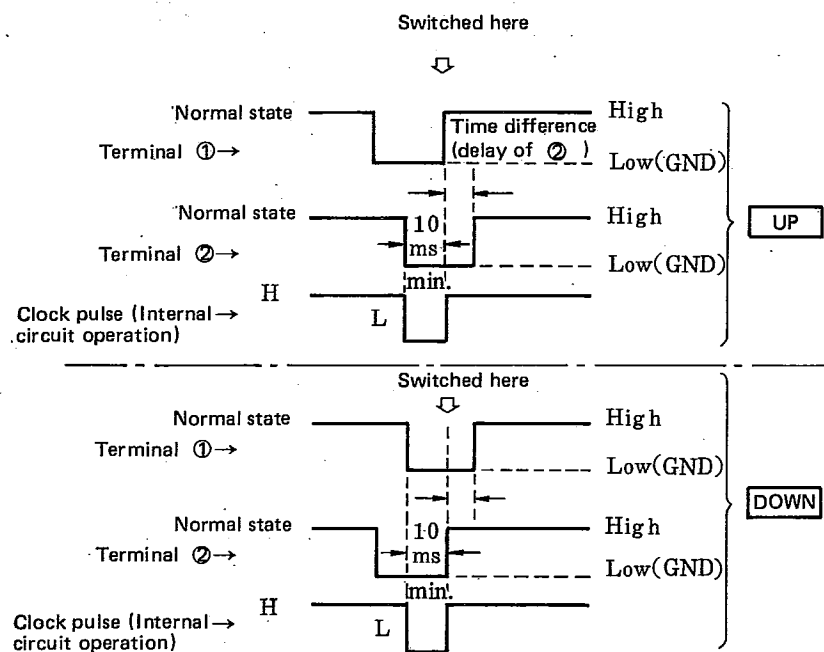

Fig. 7-3 Up/Down timing
Signals to these terminals modifying the frequency setting or the output level in 0.1 dB (1 or 10 dB) steps. The direction is determined by the relative timing with which the rotary encoder terminals ① and ② rise from the terminal ③ (GND) level. (see Fig. 7-3.)
Note 3: The rotary encoder S4 produces the signals shown in Fig. 7-3. To order, ask for Part Nos: